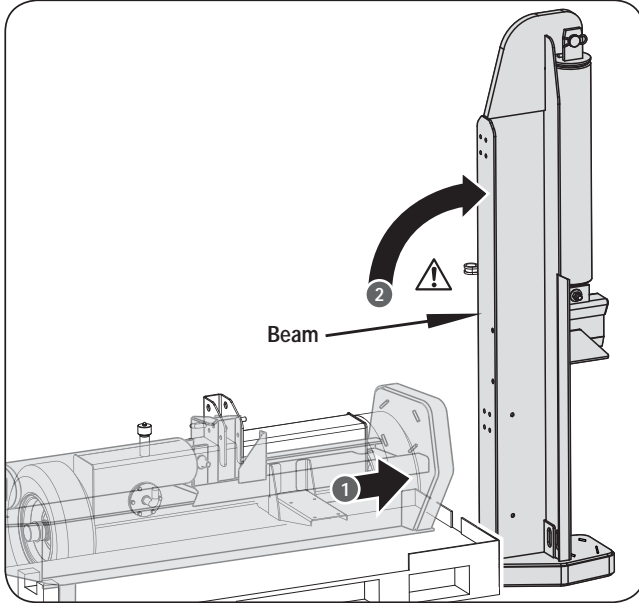

Figure 4
1. Hold and pull the beam outside the pallet. (See *Figure 4, Illustration 1.*)
2. Slowly lift the top of the beam and stand the beam on the end plate in the vertical position. (See *Figure 4, Illustration 2.*)